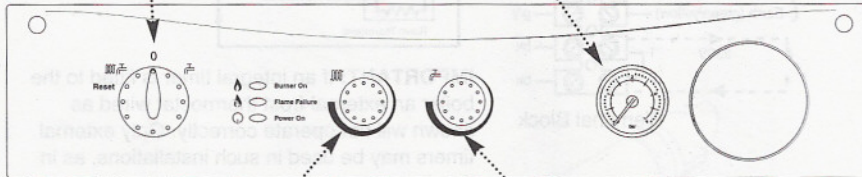

Fig. 36
10. If at any time during commissioning it is required to terminate a particular cycle, turn the selector to the OFF position and then back to either (ON) or (OFF) (Fig. 36).